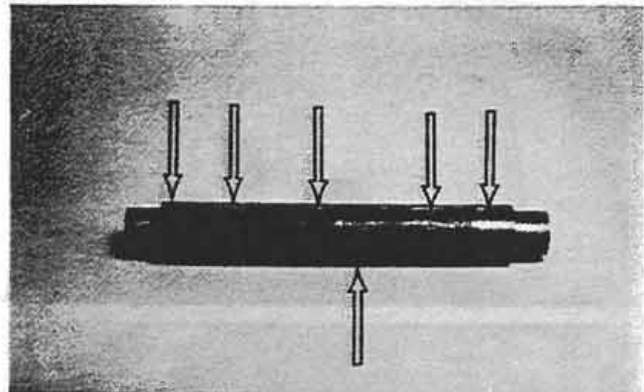

Figure 10:
3. Inspect the surface of the anchor pin at point of stationary brake plate contact (Fig. 10). Replace if wearing is severe enough to cause the stationary brake plates to hang-up.